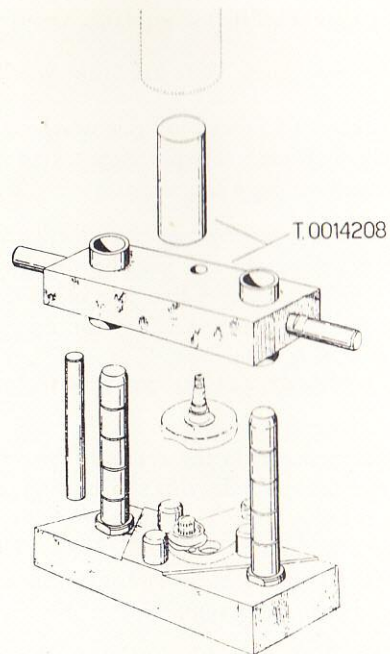

Fig. 91.
5. Locate all these parts on assembly jig T. 0014208 as shown in Fig. 91 and press the other web (rotor side) into position.